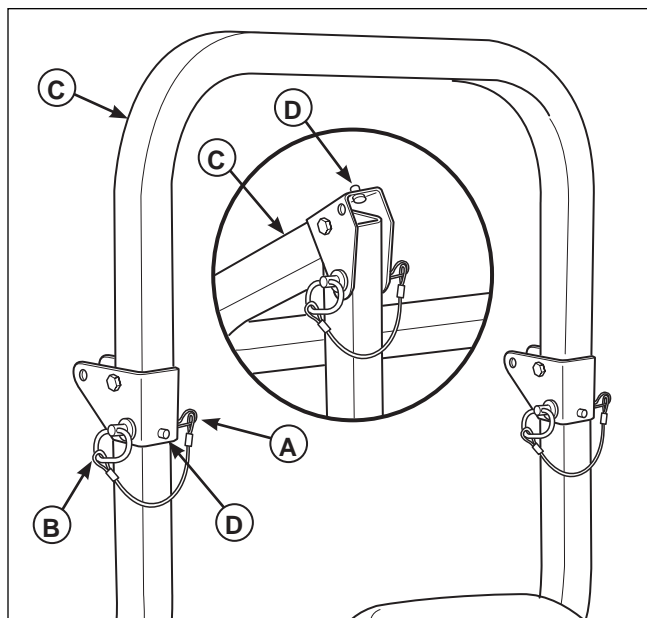

Figure 12. Raise & Lower the Roll Bar
1. Pull the hair pin clips (**A**, **Figure 12**) out of the retainer pins (**B**).
3. Lower the roll bar and reinstall the retainer pins and hair pin clips to secure the roll bar in the down position (**see insert, Figure 12**).